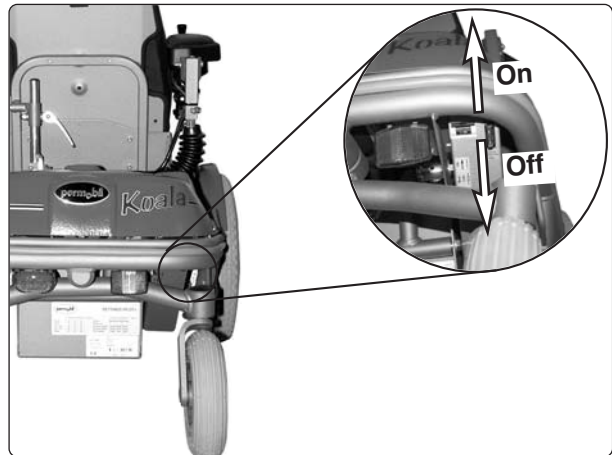

Fig. 52. Circuit breaker, 63A (Off-On).
4. Put the circuit breaker to the "OFF" position, see page 23, fig. 52.
3. Put the circuit breaker to the “OFF” position, see page 23, fig. 52.
3. Put the circuit breaker to the "OFF" position, see page 23, fig. 52.
2. Put the circuit breaker in the "OFF" position, see page 23, fig. 52.
The circuit breaker also acts as a battery isolator, but is usually referred to as the circuit breaker. You will not normally need to change the circuit breaker, as you can reset it when it has tripped. It is located on the underside of the chassis, above the right, rear wheel, see fig. 52. The circuit breaker is protected from dirt and water by a rubber lip, which can easily be folded back.
2. Put the circuit breaker to the "OFF" position, see fig. 52.
11. Put the circuit breaker to the "ON" position, see fig. 52.